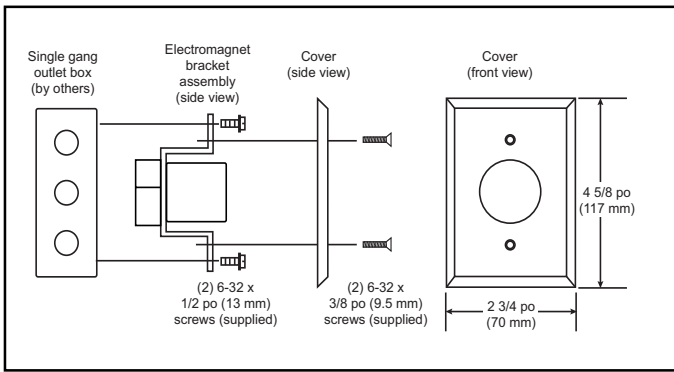

Figure 2. Mounting
- Refer to Figure 2. Pull field wiring through conduit into the single gang outlet box.
- Secure the electromagnet bracket assembly to the outlet box using two #6-32 x 1/2" screws provided (Figure 2).
- Mount the cover to the electromagnet bracket assembly and secure with the two #6-32 x 3/8" screws provided (Figure 2).